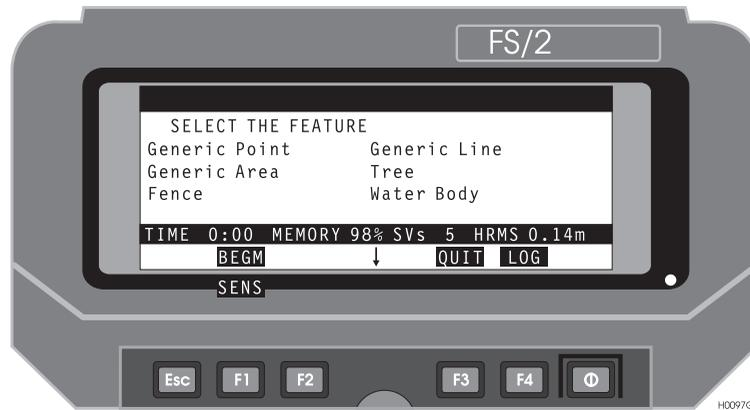

Figure 3.40: Select Feature Screen
15. In the GIS main menu, press F2 (FEAT), calling the Select Feature screen, Figure 3.40.